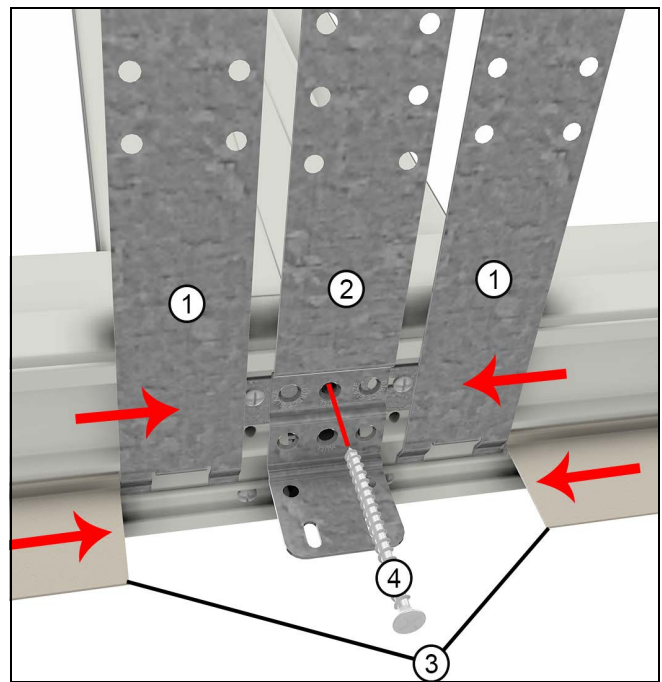

Figure 21 Sill bracket
5. For sill mullion joints, take previously removed sill nail fin and cut sill nail fin at each mullion joint location and shorten the ends of each piece by 3"- 3-1/2" near each mullion to allow space for the flat sill structural brackets. Slide brackets and nail fin pieces into the sill T-slot. See Figure 21.